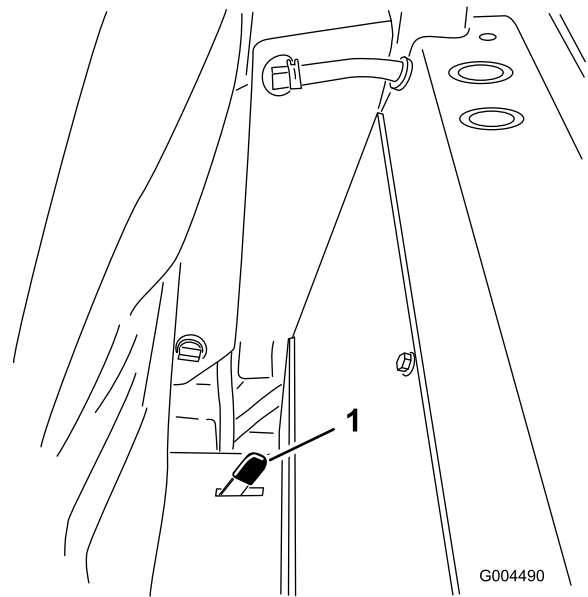

Figure 37
2. Push one of the seat latches, located behind and to the sides of the seat, rearward to unlatch the seat and pull forward on the top of the seat (Figure 37).